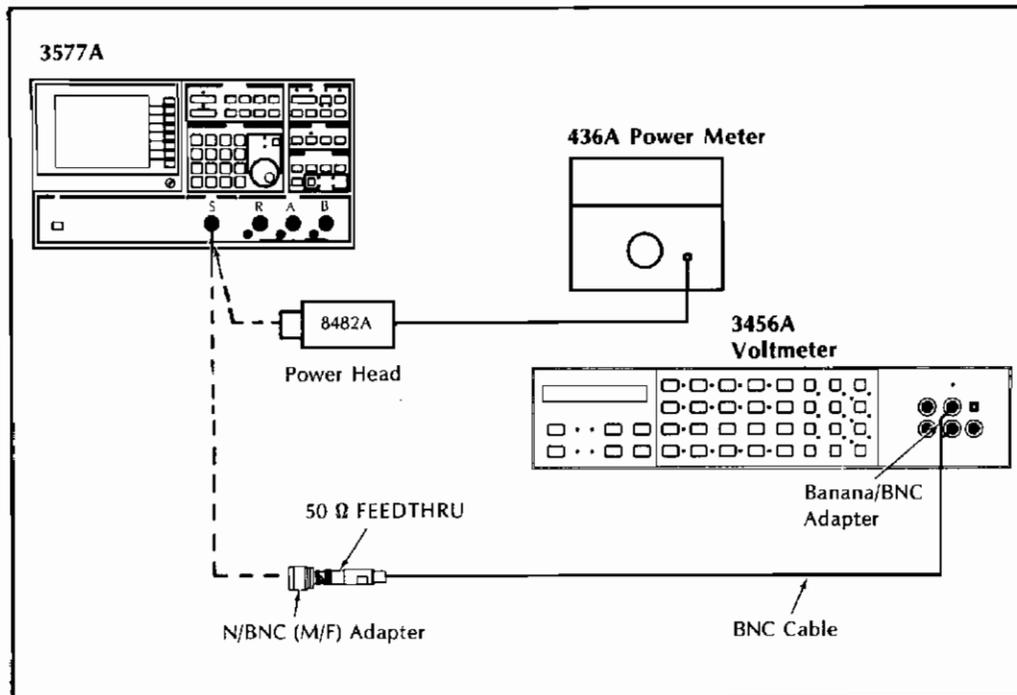

Figure 3-19 Alternate Source Flatness and Absolute Accuracy Test Set-Up
- c. Connect the voltmeter to the HP 3577A source output using a BNC cable, feedthrough termination, and N male to BNC female adapter as shown in Figure 3-19.
- k. Connect the 8482A power head to the 3577A source as shown in Figure 3-19.